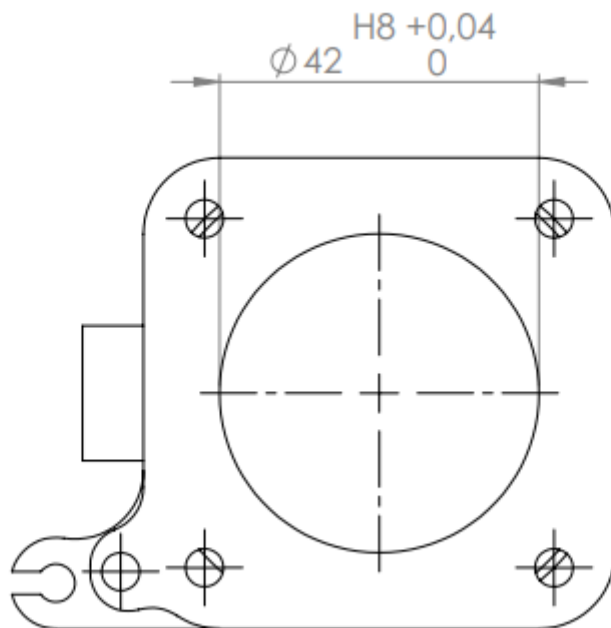

Fig 3.
**Choice of diameter ( D42 or D45) (Fig 3) :**